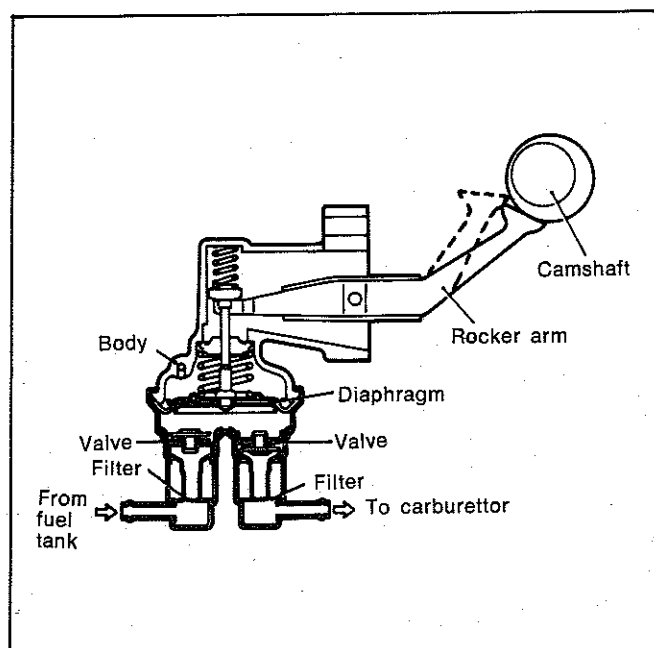

Fig. 3—Cross section view of fuel pump—dotted line shows incorrect position of lever
(1) Remove the air cleaner and rocker arm cover.
(2) Turn the engine until no. 2 piston is at top dead centre on the firing stroke, this places the fuel pump drive cam at the minimum lift point. Failure to do this can result in the lever sitting too high on the cam as shown by the dotted profile of the pump lever in Fig. 3.